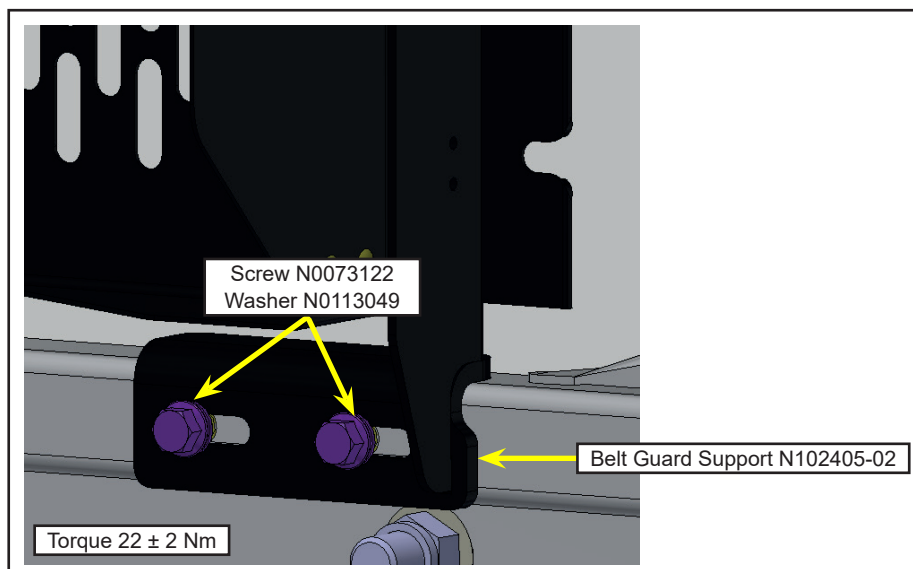

Figure 17 - Installation of Belt Guard Closing Straps
- 1.20. Tighten the screw P/N N0073122 and washer P/N N0113049 and torque to 22 ± 2 Nm (see figure 17).